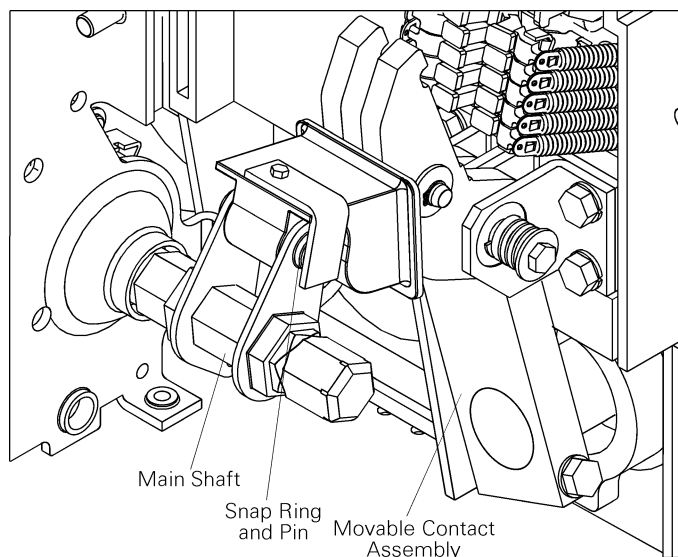

Figure 5-6. Movable contact connection to the breaker main shaft on WPX08, WPS16, WPF16, WPH16, and WPS20 breakers.
5. Remove one of the snap rings and slide out the pin connecting each of the movable contact assemblies to the breaker main shaft, as illustrated in Figure 5-6. On the two outer poles, first remove the bolt and cover over the outer end of the pin.
6. Reconnect the movable contact assemblies to the breaker main shaft by inserting the connecting pin and reattaching the snap ring, as illustrated in Figure 5-6. Reattach the cover and bolt on the two outer poles.